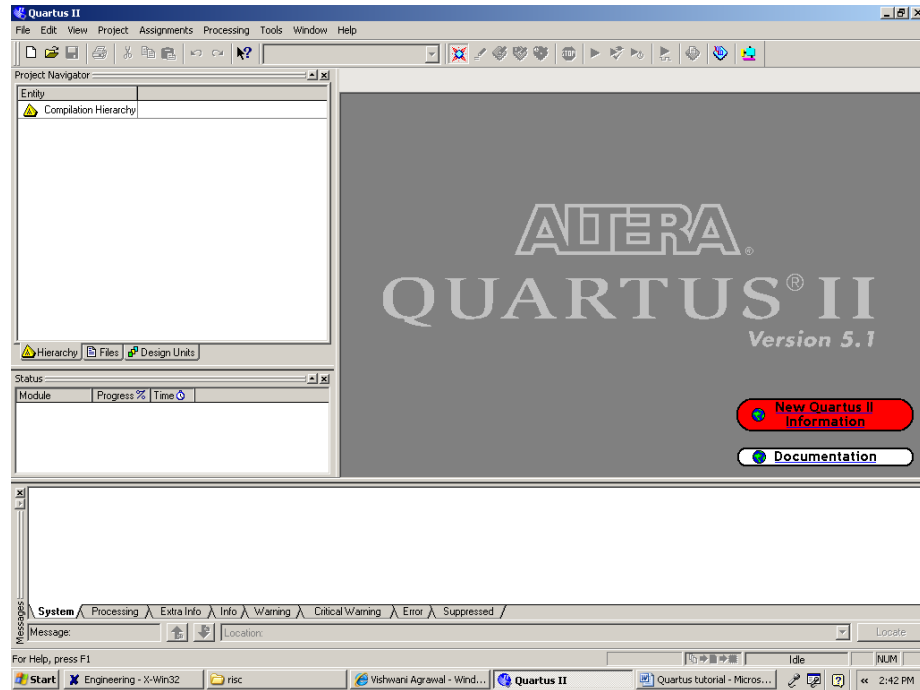

Fig. 1
1) Start the Quartus II software. You should see a display similar to the one in Figure 1.